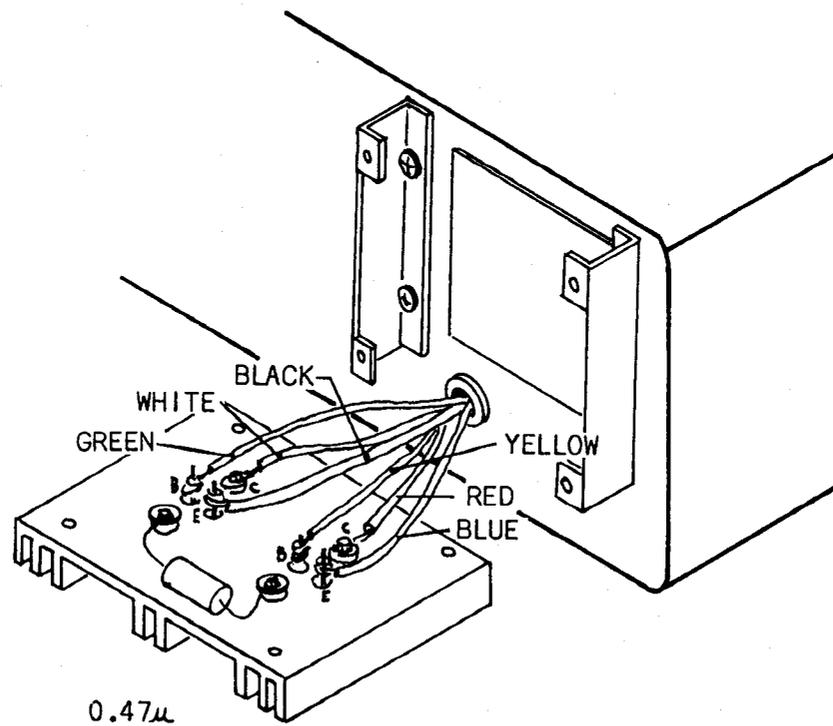

FIGURE 6-20
4. Wrap and solder the wires coming from the back panel to each transistor as shown in Fig.6-20. Make sure each wire is soldered well, but do not overheat the transistors.
If using 2SB206's, leave out the 0.47 μ f capacitor - you don't need it. Wire as shown in Fig.6-20.
If using 2SB212's, use a 2.2 μ f instead of the 0.47 μ f capacitor. Wire as shown in Fig.6-20.